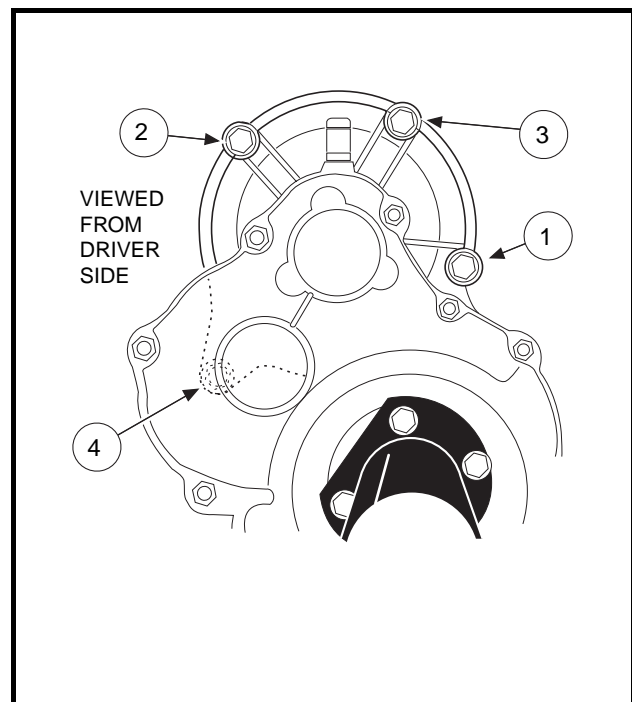

Figure 16-18 Motor Mount
- 4.3. Begin finger-tightening the bolts in the sequence indicated (**Figure 16-18, Page 16-14**). Continue tightening by hand until the motor is seated in the transaxle housing. **See following CAUTION and NOTE.**
- 4.4. Tighten the right bolt (1) to 65 in-lb (7.3 N·m) (**Figure 16-18, Page 16-14**).